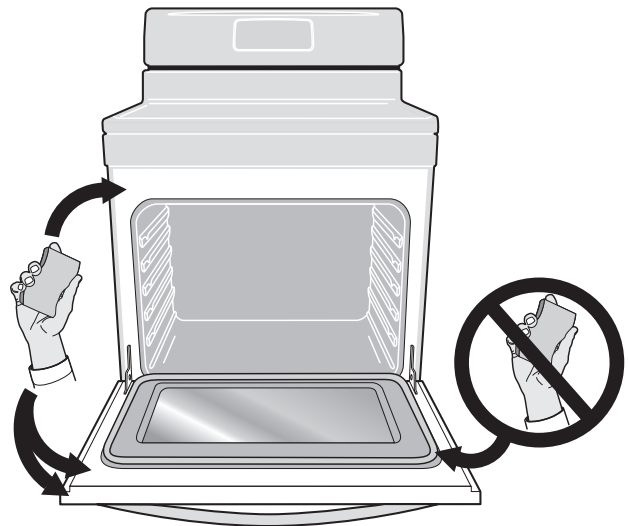

Fig. 35 Areas to clean and areas to avoid (gasket)
- Do not spray oven cleaners or oven protective coatings in or around any part of the oven interior. Clean any soil from the oven frame, the door liner outside the oven door gasket, and the small area at the front center of the oven bottom (Figure 35). These areas heat sufficiently to burn soil on. Clean using soap and water prior to starting Self Clean.